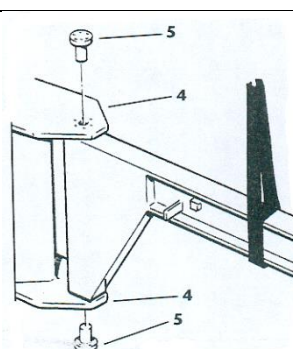

fig. 48
3. Insert the tube between the plates **4** until the rotation axis of the tube coincides with that of the plates and insert the rotation pivots **5**, after lubricating them with grease (fig. 48).